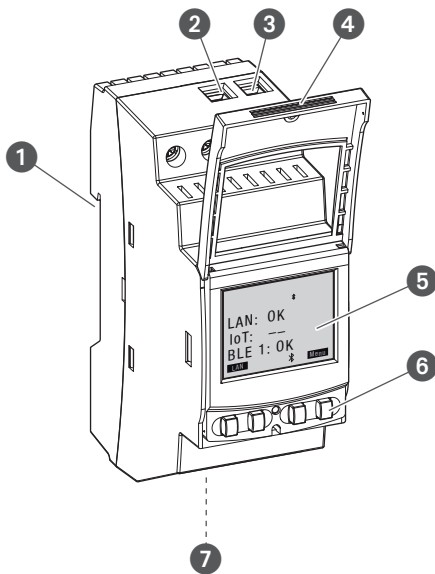

Fig. 1: LAN module
The LAN module is installed on a DIN rail (Fig. 1/❶) by means of a click system and is connected to the LAN via the Ethernet interface. It enables convenient management of up to five talento smart S25 DIN-rail timers. Programming can be easily exported and transferred via a PC in the LAN or a mobile device via WLAN. The DIN-rail timers are connected to the LAN module via Bluetooth. The radio signal frequency is 2.4 GHz and the maximum transmission power is 1.8 mW.